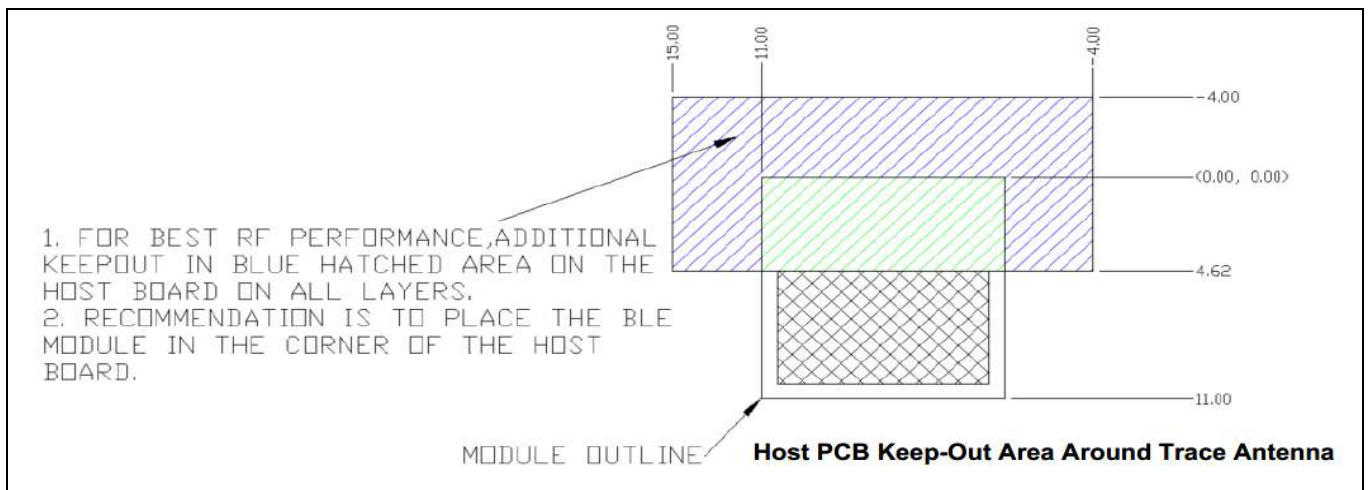
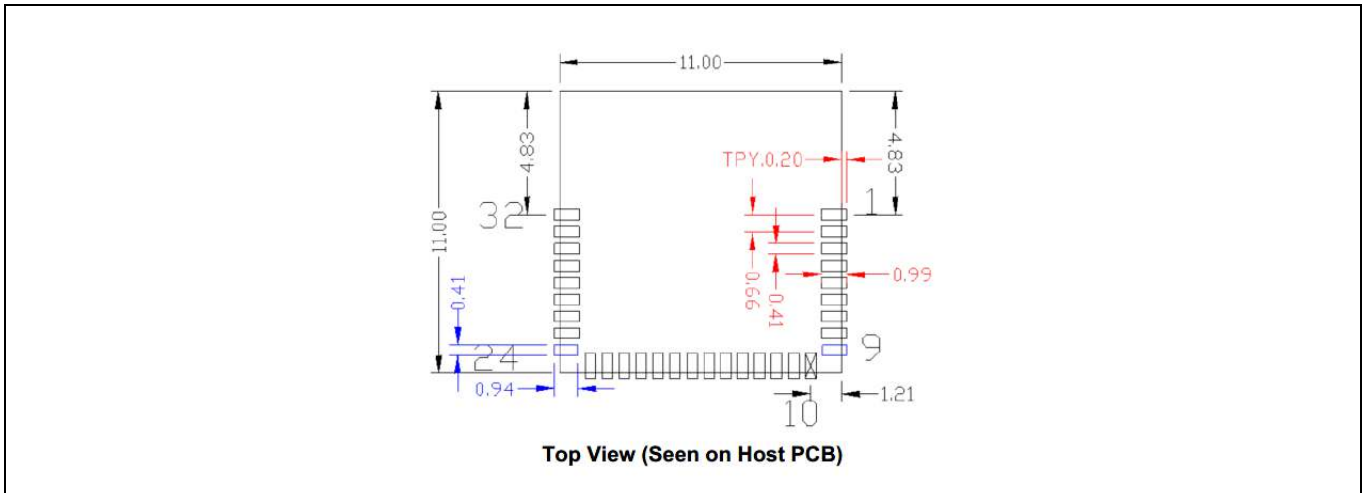
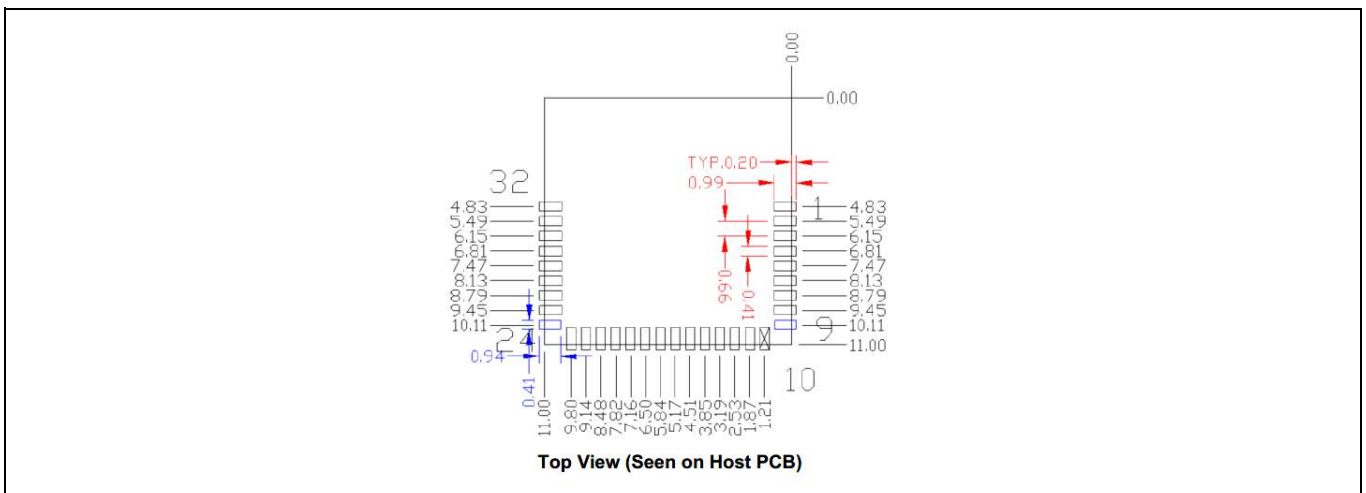
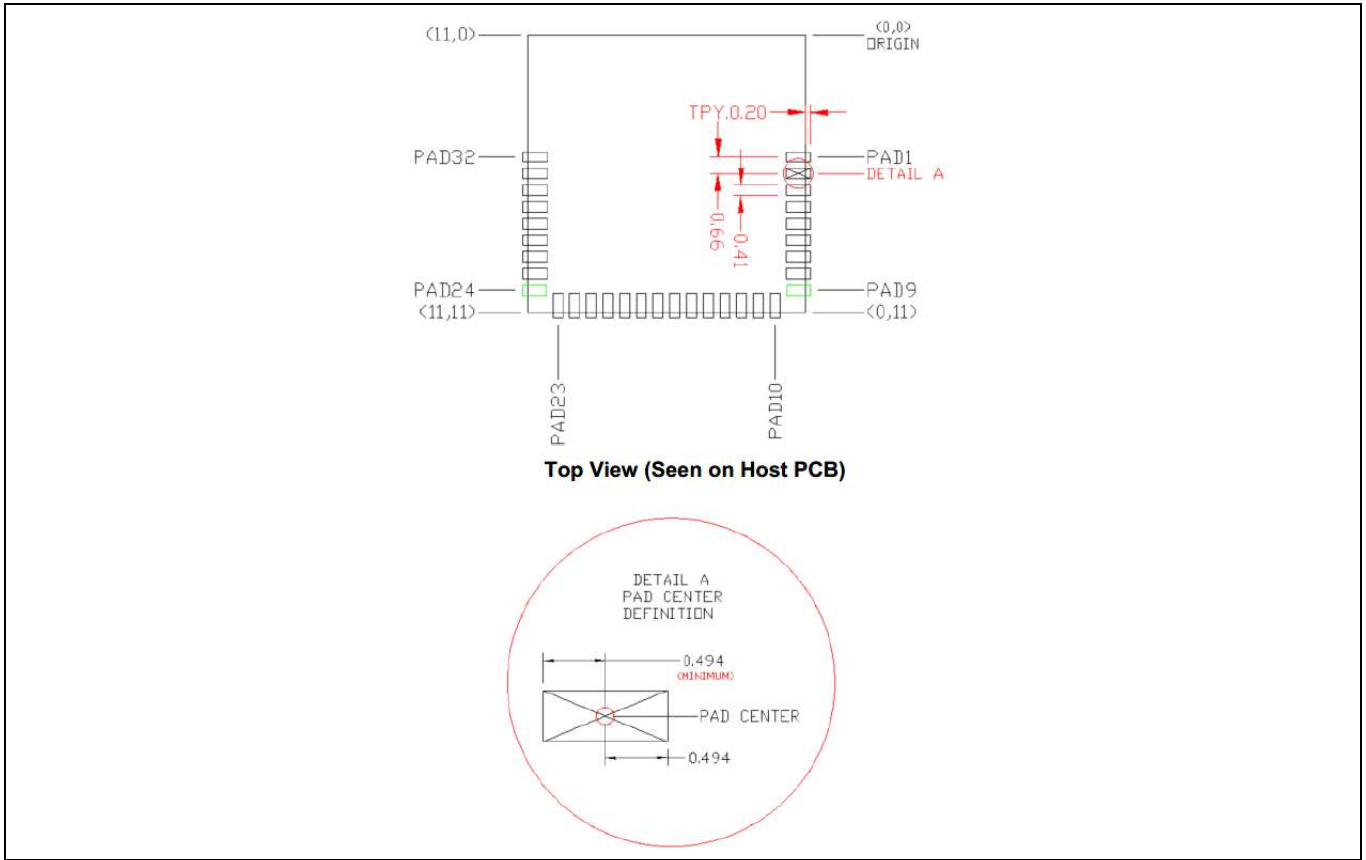

Figure 3 Recommended host PCB keep-out area around the CYBLE-214015-01 trace antenna
Figure 4 Host layout pattern for CYBLE-214015-01
Figure 5 Module pad location from origin
Figure 6 Solder pad reference location
1. No metal should be located beneath or above the antenna area. Only bare PCB material should be located beneath the antenna area. For more information on recommended host PCB layout, see Figure 3, Figure 4, Figure 5, Figure 6, and Table 3.
1. The ideal placement of the AIROC™ Bluetooth® LE module is in a corner of the host board with the antenna located on the edge of the host board. This placement minimizes the additional recommended keep-out area stated in item 2. Refer to **AN96841** for module placement best practices.
2. To maximize RF performance, the area immediately around the AIROC™ Bluetooth® LE module trace antenna should contain an additional keep-out area, where no grounding or signal traces are contained. The keep-out area applies to all layers of the host board. The recommended dimensions of the host PCB keep-out area are shown in **Figure 3** (dimensions are in mm).
Figure 4 through **Figure 6** and **Table 3** provide details that can be used for the recommended host PCB layout pattern for the CYBLE-214015-01. Dimensions are in millimeters unless otherwise noted. Pad length of 0.99 mm (0.494 mm from center of the pad on either side) shown in **Figure 6** is the minimum recommended host pad length. The host PCB layout pattern can be completed using either **Figure 4**, **Figure 5**, or **Figure 6**. It is not necessary to use all figures to complete the host PCB layout pattern.
Table 3 provides the center location for each solder pad on the CYBLE-214015-01. All dimensions are referenced to the center of the solder pad. Refer to **Figure 6** for the location of each module solder pad.